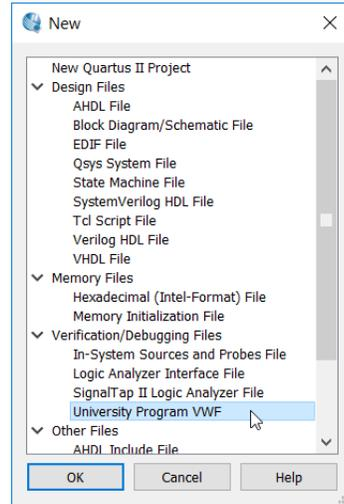

Figure 27. Create new waveform file.
- Choose **File** → **New** → **University Program VWF** to create a new file (see Figure 27) then click **OK**.